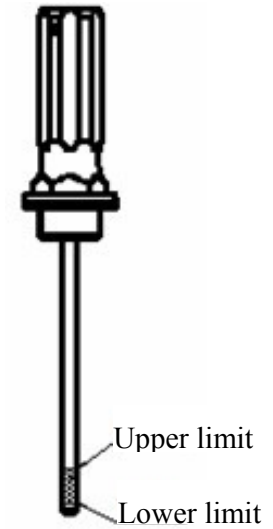

Figure 6
- 5) Fill the reduction box with SAE15W-40 engine oil. Put the whole machine in a horizontal position, and fill the oil in from the oil filler hole on the upper side of the reduction box. If you want to check engine oil level, put the dip stick in transmission box but don't rotate it. The normal oil level shall be between the upper and lower limits of the dip stick (see Figure 6).